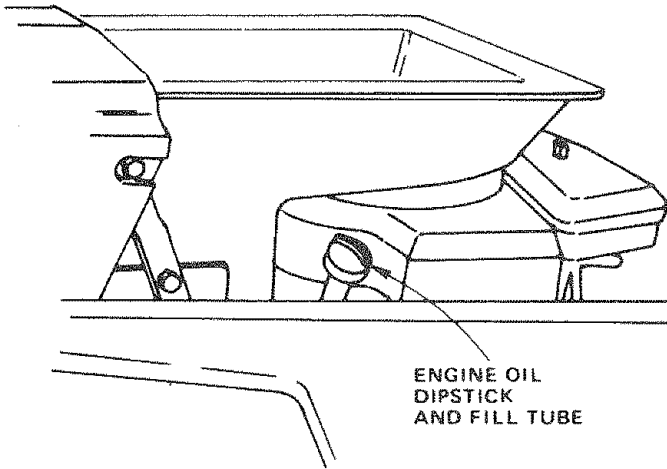

FIGURE 19
Several minutes after stopping engine, check engine oil level with tractor on level ground. Wipe dipstick (Fig. 19) clean, screw it down tight for a few seconds, remove and read oil level. If necessary, add oil until "FULL" mark is reached. (See chart above). NOTE: DO NOT OVERFILL.
- f. Replace dipstick (fig. 19).